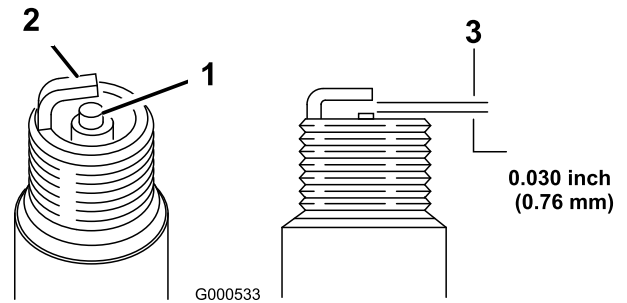

Figure 28
- Set the gap on the plug to 0.76 mm (0.030 inch) (Figure 28).